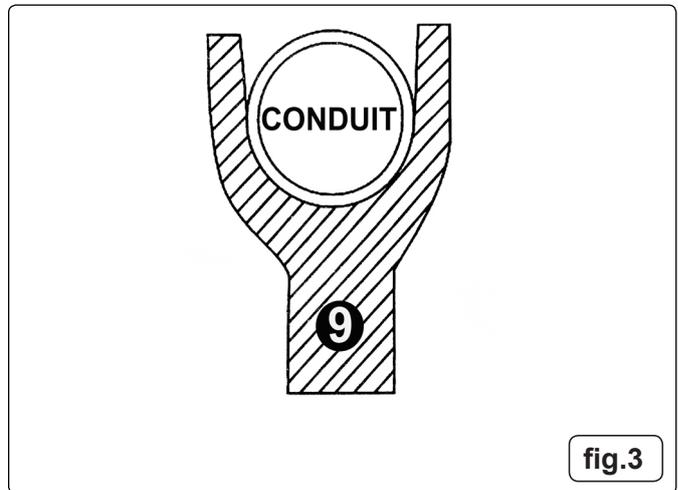

fig.3
- 5.1.1. Pass the conduit through the gap between the stop piece (5) and the former (9) and bed it into the former (fig.3).
Note! The formers are produced to the exact depth and diameter of the tube (fig.3) to facilitate bending to given measurements.